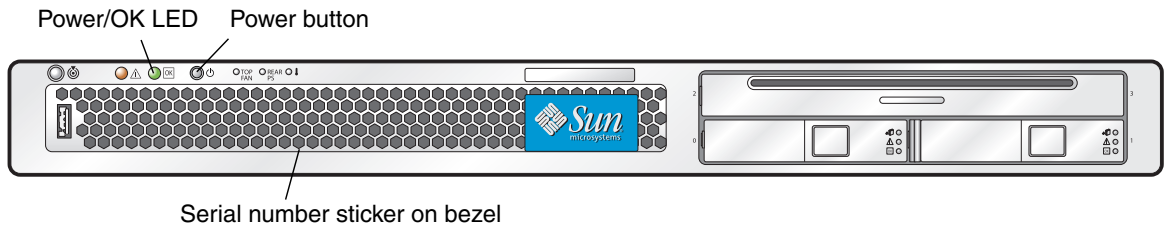
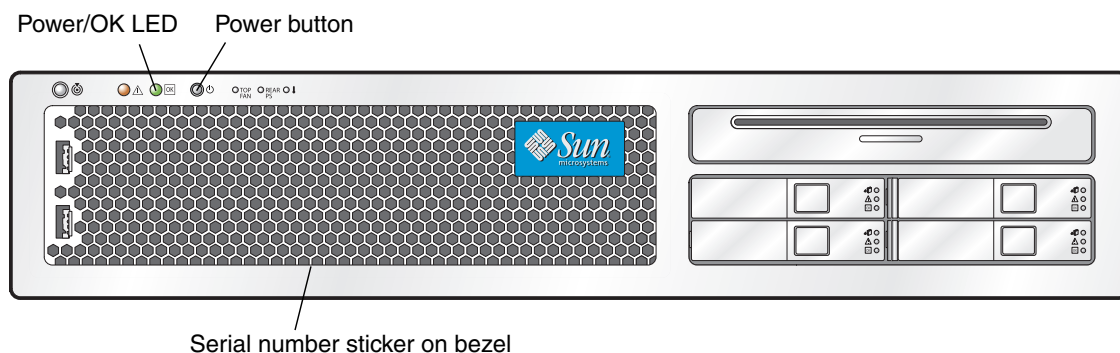

FIGURE 1-2 Sun Fire X4100/X4100 M2 Server Front Panel
FIGURE 1-3 Sun Fire X4200/X4200 M2 Server Front Panel
The system serial number is located on a sticker that is attached to the front bezel (see FIGURE 1-2 or FIGURE 1-3 for the location).
9. To restore main power mode to the server (all components powered on), use a ballpoint pen or other pointed object to press and release the Power button on the server front panel. See FIGURE 1-2 or FIGURE 1-3.